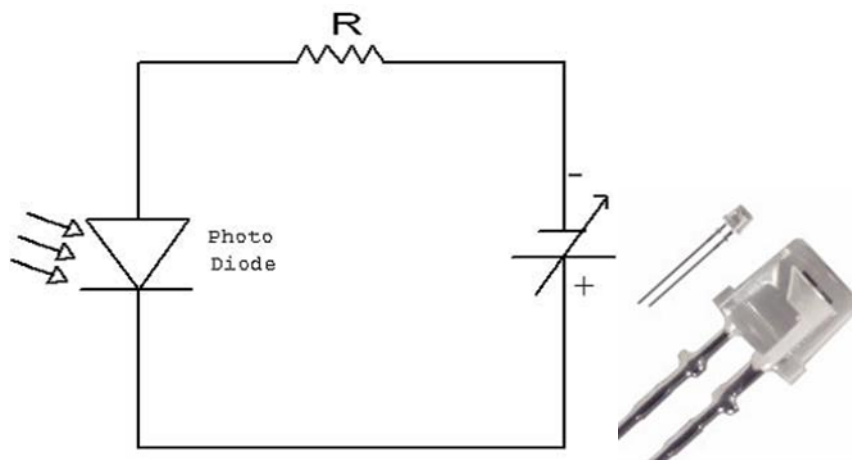

Figure 10.1: Biasing of PIN photodiode and physical appearance
1. Rig up the circuit as per the connections in diagram as shown in figure 10.1.